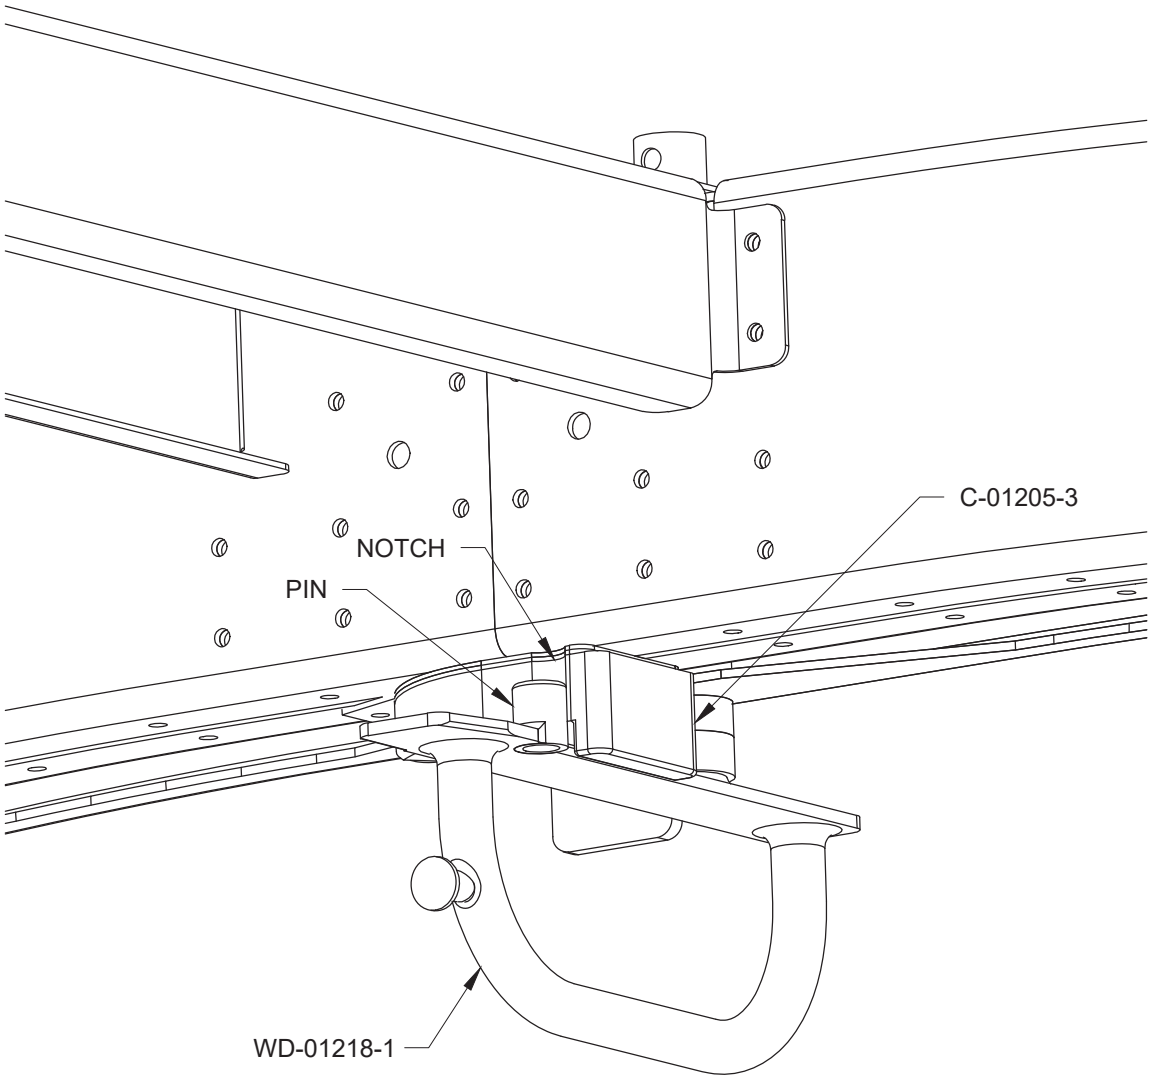

FIGURE 3: CANOPY LATCH
Step 3: Rotate the WD-01218-1 Canopy Latch closed. In the closed position the pin on the canopy latch must be fully engaged in the notch in the C-01205-3 Canopy Latch Block. See Figure 3.